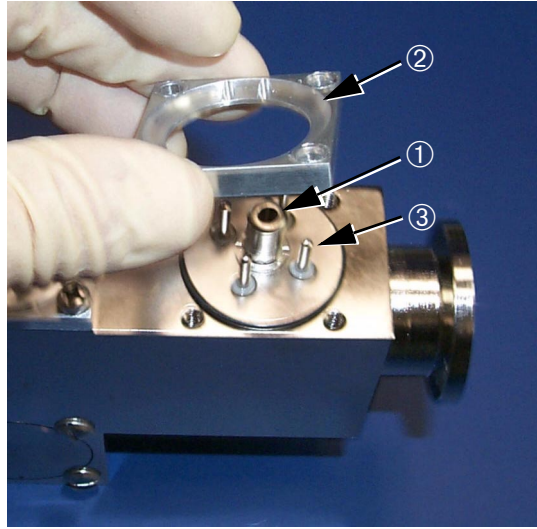

Figure 5-10 Removing the Button TC
12. Remove the button TC header ② (Figure 5-10) by pressing down on the button TC center post ① and lifting the header ② up and off of the button TC ③.